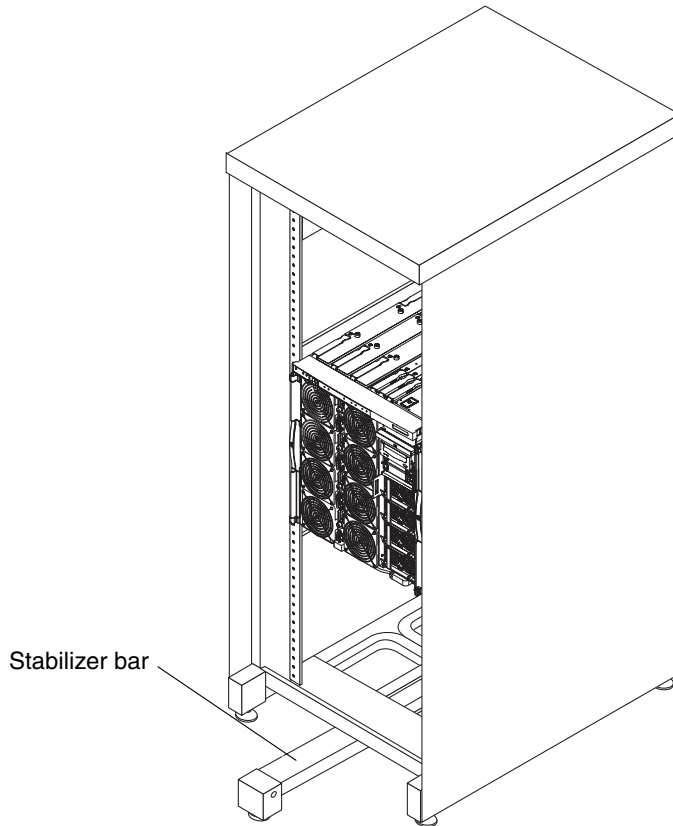

FIGURE 3-1 SunRack 900 System Cabinet With Stabilizer Bar Extended
2. Extend and lock the system cabinet stabilizer bar (FIGURE 3-1).
2. Make sure that the system cabinet stabilizer bar is extended and locked (FIGURE 3-1).
6. Retract the system cabinet stabilization bar (FIGURE 3-1).
3. Extend the cabinet stabilizer of the new cabinet and lock it in position (FIGURE 3-1).
11. Retract the cabinet stabilization mechanism (FIGURE 3-1).